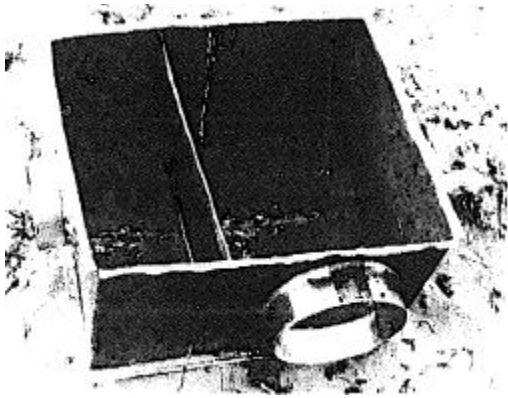

Figure 13.19 - Stove with bottom, baffle and both collars installed.
13.5, Drawings A and C, leaving 1-1/4 inches of clearance between the top and bottom of the stove. Rivet four times to the sides. Figure 13.19 shows how the stove should look at this stage.